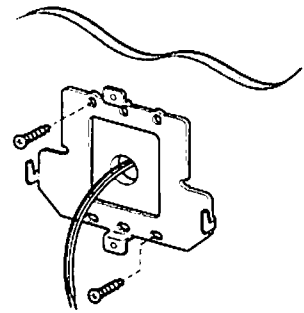

Fig.3: Mounting Plate Placement
8. Using a phillips head screw driver, attach the mounting plate to the wall with the 4.1X25 screws. (Fig.3)